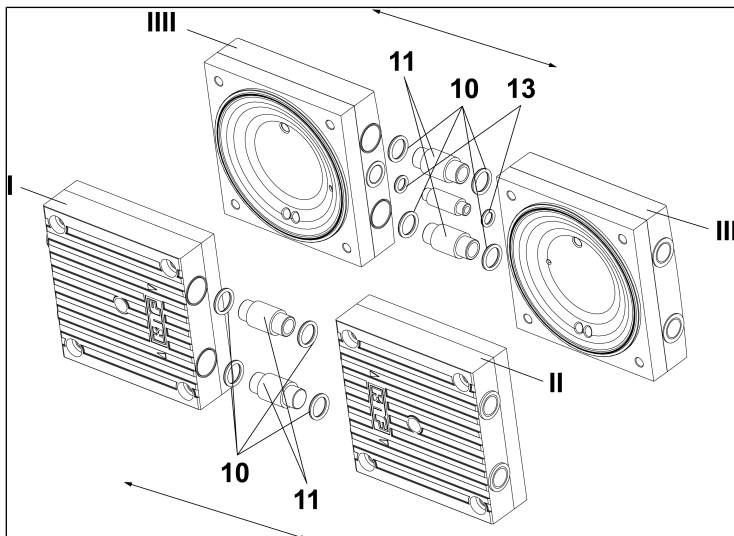

Fig.7: Removal of the O-rings, the connection pipes and the plug
8. Pull heads 1 (I/Fig. 7) and 2 (II/Fig. 7) apart and remove the O-rings (10/Fig. 7) and (13/Fig. 7).
7. Place the O-rings (10/Fig. 7) and (13/Fig. 7) on the connection.
8. Press heads 1 and 2 (I and II/Fig. 7) together.